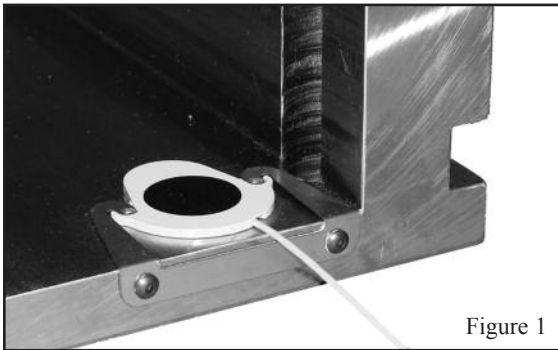

Figure 1
- with the mounting clip from the side of the mold base (Fig. 1)
- When using the Mounting Clip, slide the Thinswitch under the clip as shown in Figure 1. Switch should snap securely into place.